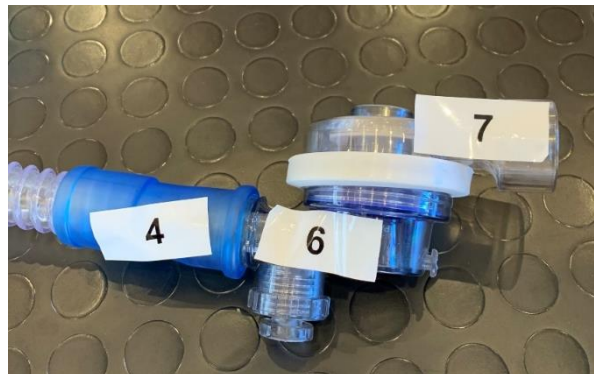

Figure 4.13: Connection of the ABU Check-valve to PEEP adapter.
- 6- Add ABU Check-valve (6) with ABU PEEP adapter (7) (Figure 4.13). Make sure that the rubber part completely seals the joint.